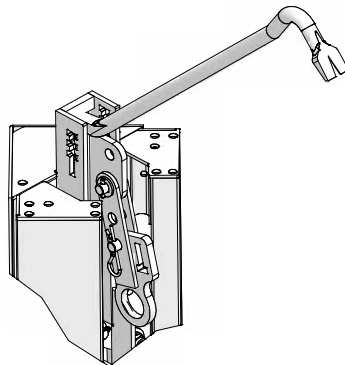

Fig. 36.5 C
7. The stripping corner can be reset for the next pour by positioning the crowbar at position C (Fig. 36.5 C) and pushing the bell-crank lever down.